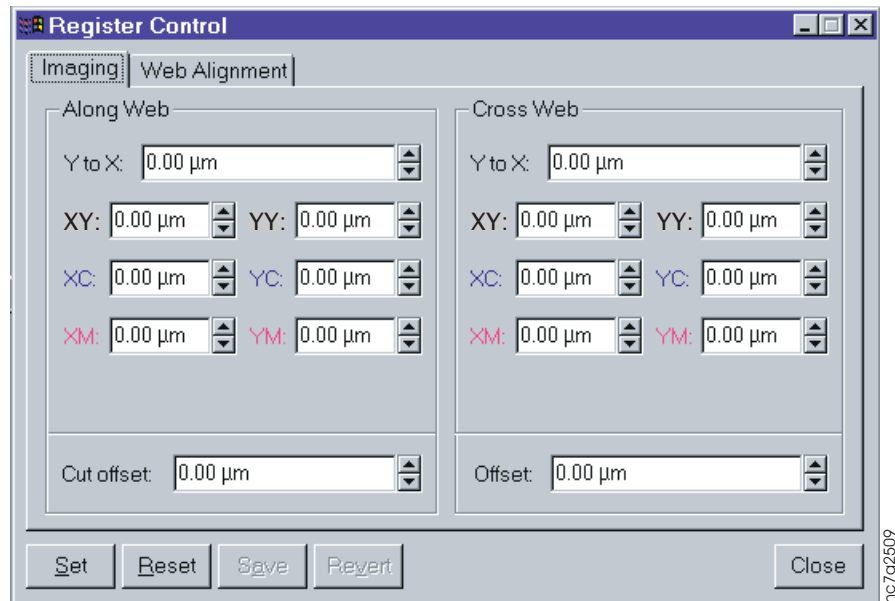

Figure 191. Register Control Window
1. Open the **Register Control** window, as shown in Figure 191.